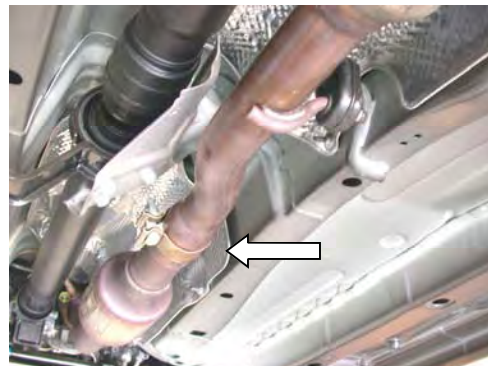

Figure 1
1. Loosen the clamp shown in figure 1 located just behind the catalytic converter.